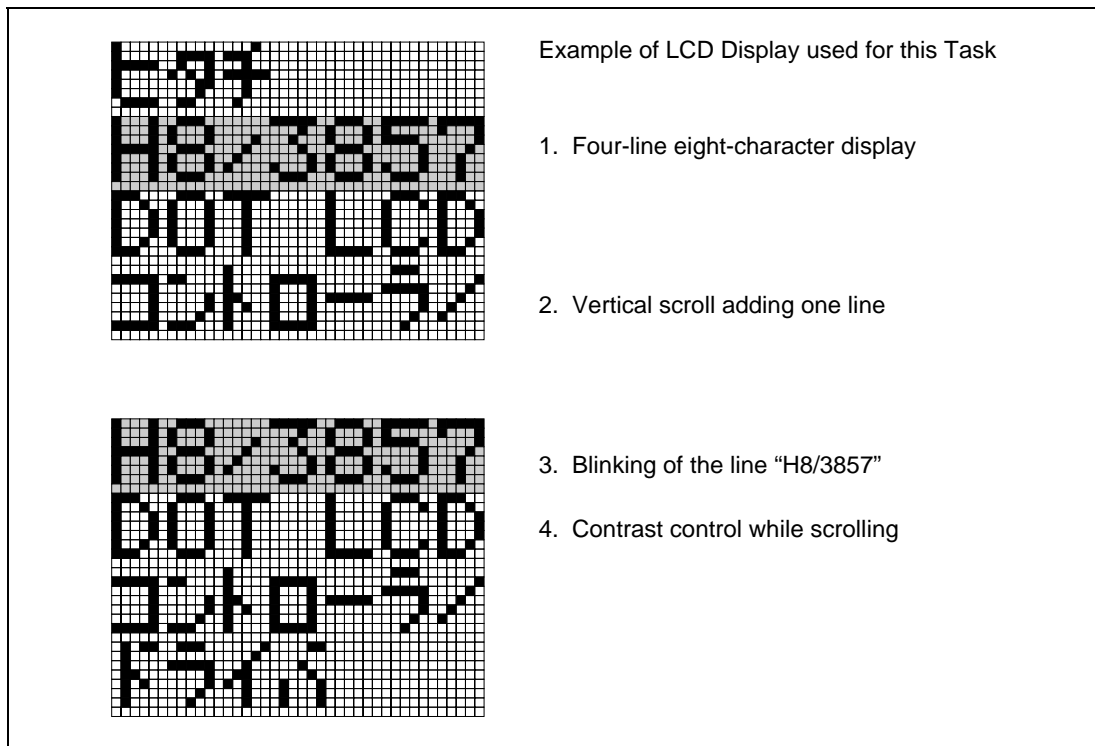

Figure 1 Example of LCD Display in this Task
5. Figure 1 shows an example of the LCD display.